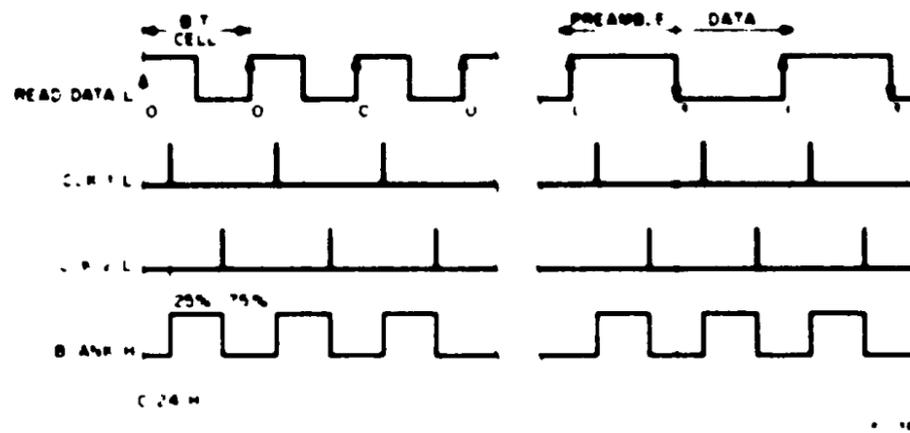

Figure 4-9 Simplified Blank H and Read Clock Timing
4.5.9.4 End Preamble (Frame Bit Detection) With SEEK H applied to the positive Transition Detector gate (Figure A-7), POS PEAKS L (which are now occurring at the phase flux transitions) are generated. Since the Read Clock VCO is now synchronized with the bit cell boundary frequency, these additional POS PEAKS L pulses must not be applied to the phase lock loop. To prevent this, the signal BLANK H (derived from the VCO), which occurs during the middle 50 percent of the bit cell, is ANDed with SEEK H to disable the lower leg of the PEAKS L gate. Thus, during the phase flux transition time, PEAKS L pulses are not applied to the phase lock loop. In addition, the leading edge of BLANK H produces CLK 1 L pulses (Figure 4-9) while the trailing edge produces CLK 2 L pulses.